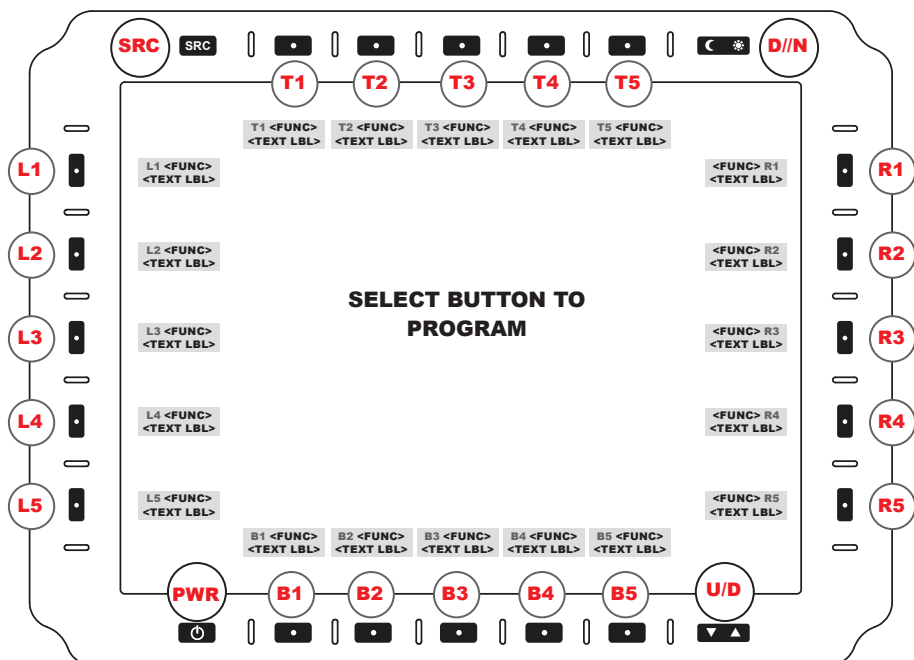

FIGURE 34. PROGRAMMABLE SOFTKEY ASSIGNMENT MENU
PROGRAM BTN (L2). Initiates Programmable Softkey (Select Key) Menu (Figure 34).
The front bezel twenty (20) softkeys are in a layout of five keys on the left (L1-5), right (R1-5), bottom (B1-5) and top, (T1-5) (Figure 34). Use these keys to select on-screen menu options. The keys are illuminated in Day or Night mode and off in Off mode. Night luminance is subduced to match existing platform night lighting.
BACK (R5). Returns to Select Programmable Softkey Select Key Menu, (Figure 34).